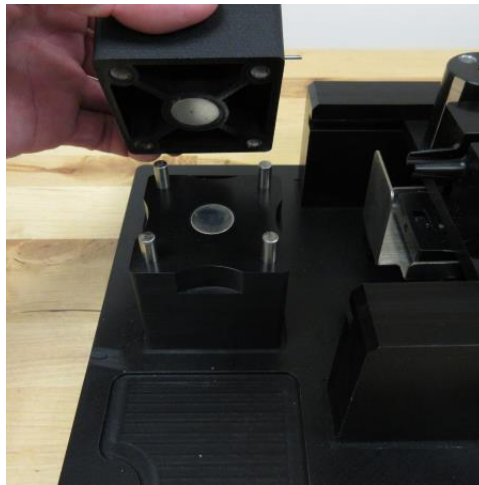

Figure 5
- Rotate the nest to fitting position desired and simply place on the four (4) dowel pins.
- A magnet holds the nest in place. (figure 5)